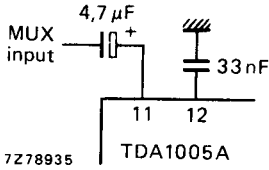
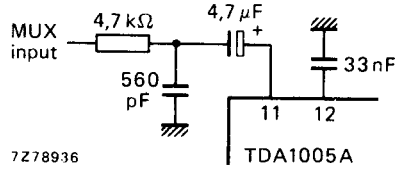

Fig. 13 Without filtering.
Fig. 15 With RC-filter for achieving i.f. roll-off (typ. 62 kHz).
1. For other input structures see Figs 13 to 21; shown here is with RC-filter (Fig. 15).
- For other input structures see Figs 13 to 21; shown here is with RC-filter (Fig. 15).